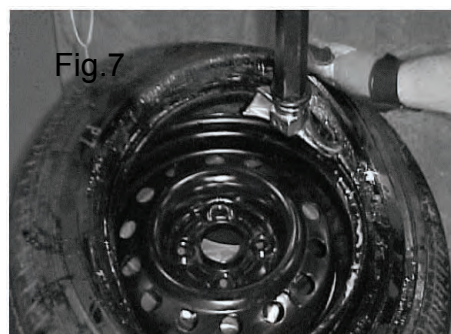

Fig.6
6. Insert the lever between the tire bead and the front section of the mounting head. (Fig.6)